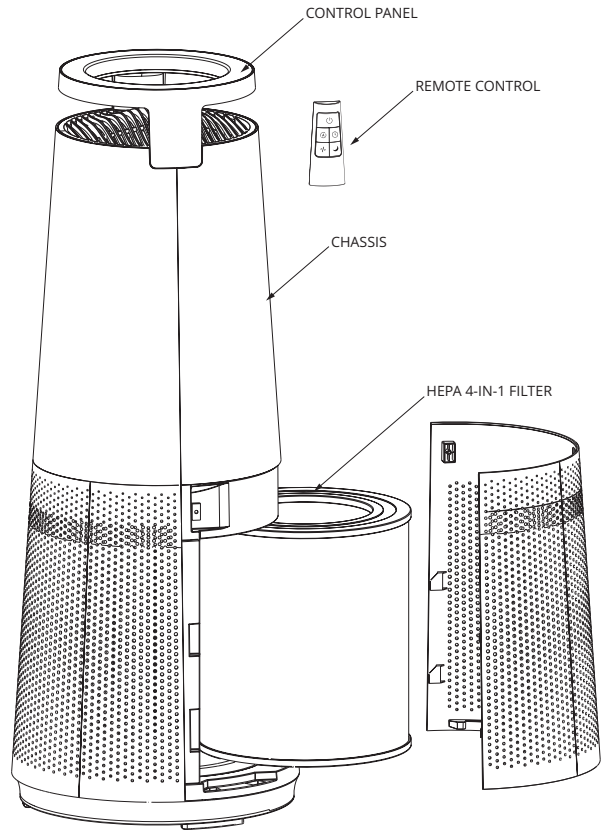

Figure 1. Major Components
Pls refer to Figure 1 for the product overview.
1. Remove the unit from the box and check that all the items shown in Figure 1 are included. It is a good idea to retain the packaging for storing the unit or in the event it must be shipped back for service.